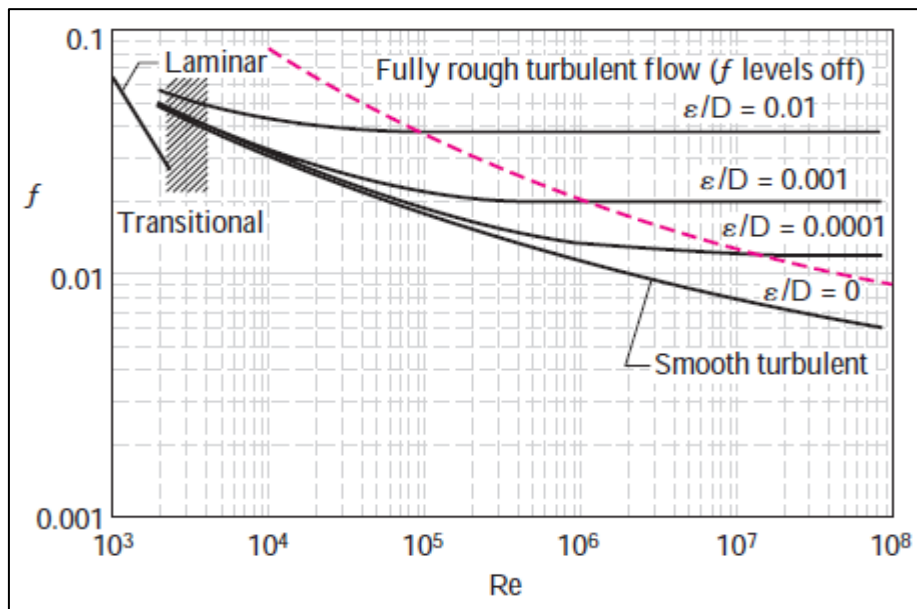

Figure 8. Horizontal f Curves for Large Re
- At very large Reynolds numbers (to the right of the dashed line on the chart), the friction factor curves corresponding to relative roughness curves are nearly horizontal, and thus the friction factors are independent of the Reynolds number, as shown in Figure 8.